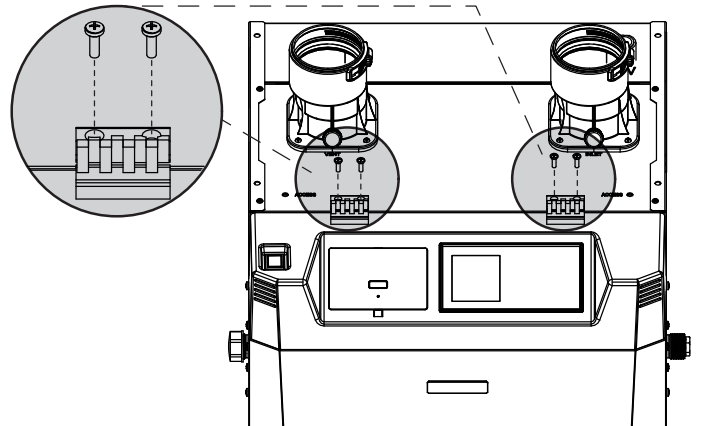

Fig. 10: Hinges
2. Replace the M5 pozidriv screw through the hinge. See Figure 10.